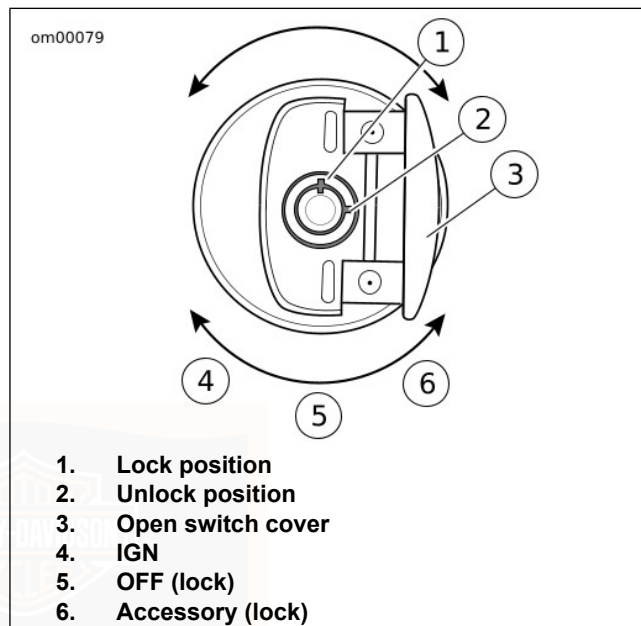

Figure 4. Ignition Switch: Softail Models (Except FXS and FXSB)
See Figure 4. The ignition switch is located on the instrument panel on top of the tank.
1. Put the engine OFF/RUN switch (6) in the RUN position and the transmission in neutral. Neutral (green) indicator lamp should be illuminated.
2. See Figure 4. Turn the ignition switch to IGN and push the START switch to operate starter motor.
2. See Figure 4. Turn the ignition switch to the OFF position to turn the electric power completely OFF.